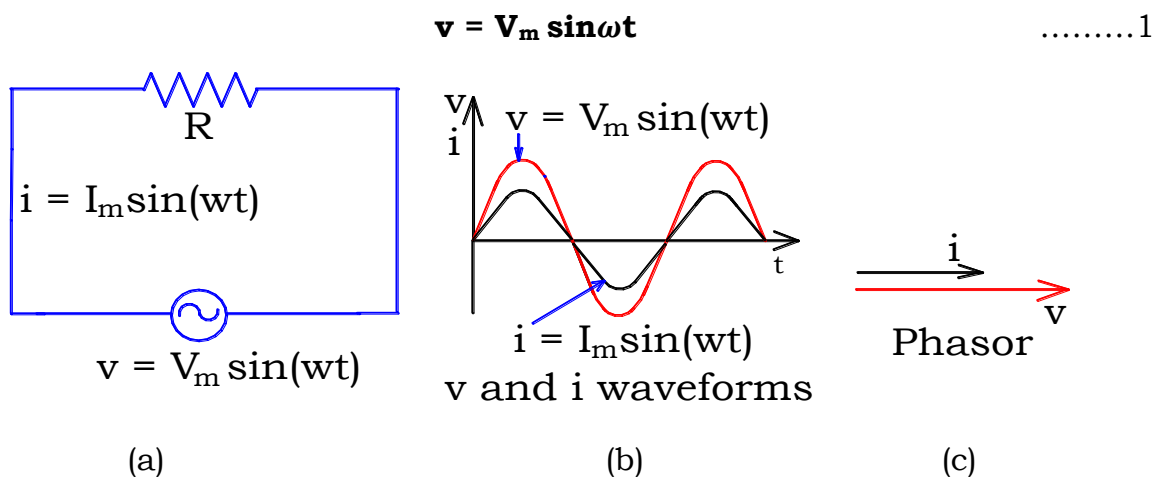

Fig. 5.9
Sine wave represented in equation 1 is applied to resistor  $R$  in fig. 5.9(a).
From equations (1) and (2), it is clear that voltage and current are in the same phase. The phase relation between  $v$  and  $i$  is represented graphically in fig. 5.9(b) and the phasor representation is as shown in fig. 5.9(c).